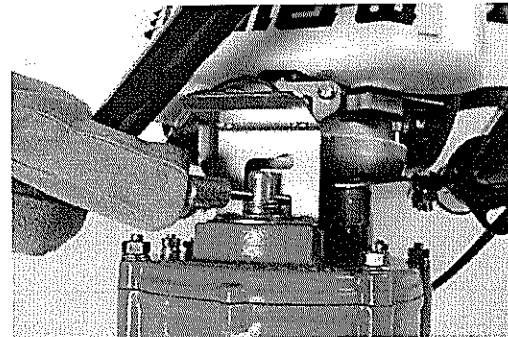

FIGURE 11
21. Push lock handle down until it stops against bottom slot of lock bracket and engages transmission gear. (Note, it may be necessary to rotate Hole Digger back and forth slightly to allow lock pin to fully engage gear.) Turn lock handle clockwise (to left) until it stops against right side of slot. Release allowing spring to push handle up into lower detent position. In this position, lock device is fully deployed. FIGURE 11